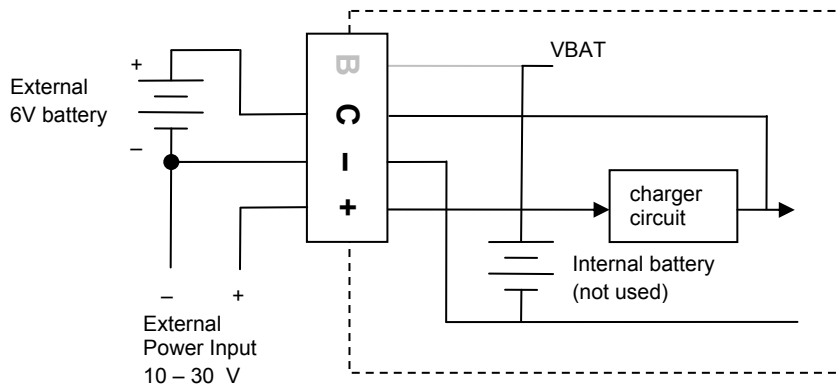

Figure 104: Connecting an external 6V battery – battery link removed
- not connecting the battery link between the **B** and **C** terminals (*Figure 104*), or